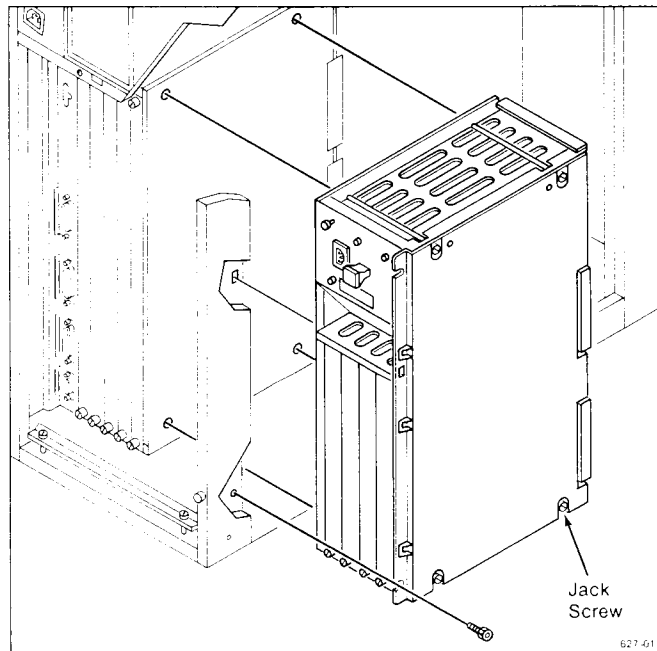

Figure 7-3. Positioning the VME Card Cage
1. Carefully slide the VME card cage through the open side of the enclosure and into place, taking care not to damage the connectors on the VME card cage and local I/O card cage (see Figure 7-3).